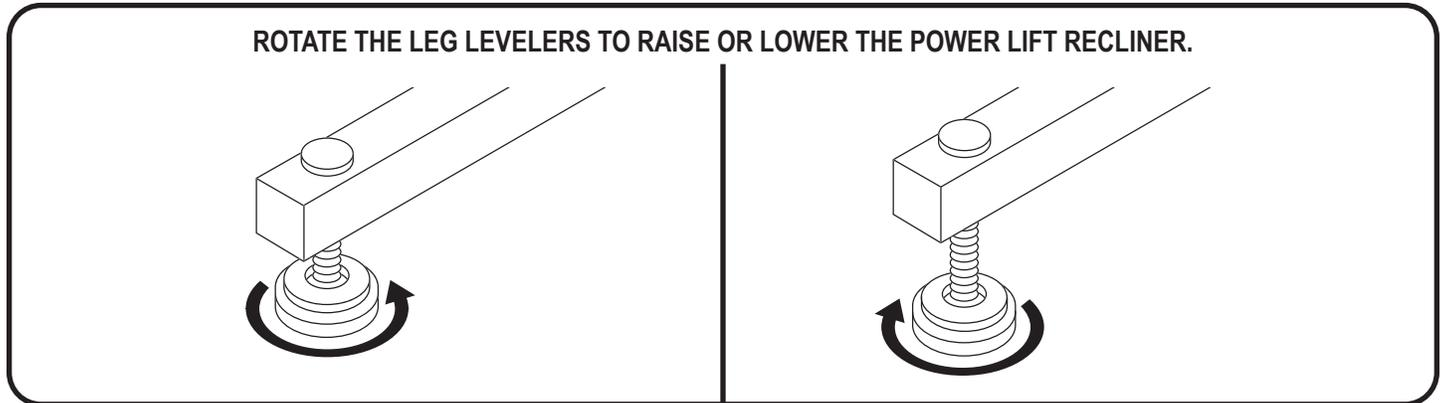

Figure 3.2 Leg Levelers
**Leg Levelers:** Manually rotate up or down in order to stabilise the recliner before use (**Fig. 3.2**).
2. Adjust the leg levelers to stabilise the power lift recliner (**Fig. 3.2**).